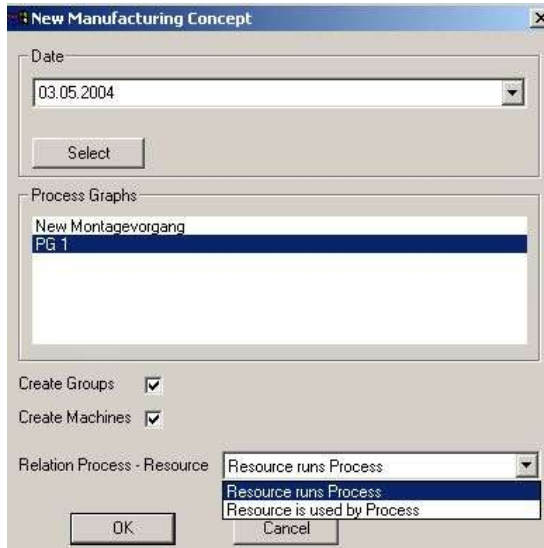

Figure 8: New Manufacturing Concept
<p>Please refer to the Figure 8.</p>	<p>Creating a new Manufacturing Concept.</p> <p>Select circulation for relation dialog</p>
The Manufacturing Concept processes the displayed processes in a Process Graph and assigns them to resources such as machines, assembly stations, or manual workstations. The processes created in the Process Graph are only transferred to the new Manufacturing Concept if you checkmark the Create Groups and the Create Machines fields in the **New Manufacturing Concept** dialog. Please refer to the Figure 8.
- 2) Click **Select** button (Figure 8) to open the required dialog.
If you want to create a Manufacturing Concept on the basis of a Process Graph, the respective Process Graph must have been created beforehand. Previously created processes are displayed in the dialog (Please refer to the Figure 8) below the Process Graphs. If you want to create a Manufacturing Concept **without a Process Graph**, no Process Graph must be selected and the **Create Groups** and **Create Machines** fields must be disabled (do not checkmark). Please refer to the Figure 8.
- 2) To create resources for processes in the Process Graph of the Manufacturing Process, enable **Create Groups** and **Create Machines**. This is done by checkmarking the two fields. *Please refer to the Figure 8.*
- 5) The **Define relationship between plantypes fr...** dialog allows you to define the relationships between the plantypes from the Process Graph and the Manufacturing Concept. This dialog is only available if both fields, i.e. **Create Groups** and **Create Machines**, have been enabled. *Please refer to the Figure 8.*